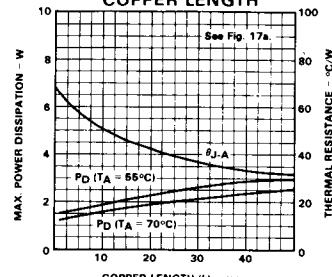

Fig. 12
In the latter case, Fig. 12 shows the maximum dissipated power (for $T_A = 55^{\circ}\text{C}$) as a function of the side of two equal square copper areas having a thickness of $35\ \mu$ (1.4 mils).
- 2) From Fig. 12, and knowing $T_A(\max)$, calculate copper length ('L')
From Fig. 12 $L \approx 25 \text{ mm}$
The Fig. 12 shows that no heat sink is required if $T_A \leqslant 55^\circ\text{C}$.